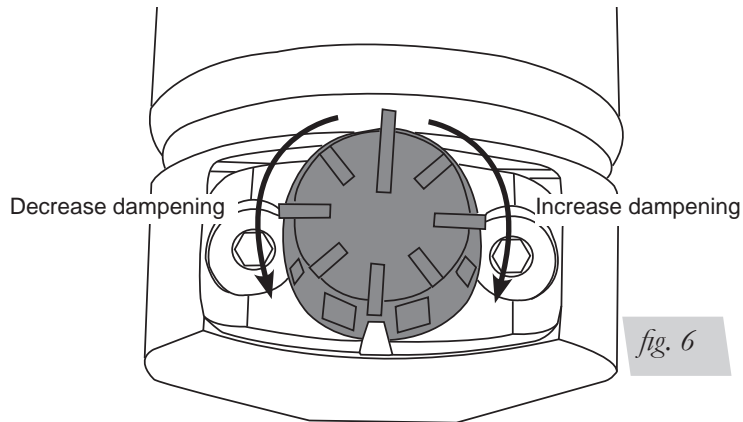

fig. 6
1. The struts for this vehicle come with a nine-position dampening dial for added adjustability (fig. 6). Before driving your vehicle, set the new struts to their highest setting by turning the black dial on the shaft of the strut as far as it will go to the right (position 9).